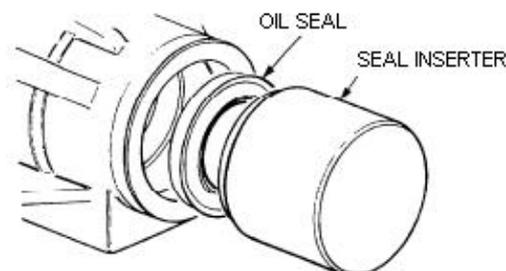

Figure 246 Installing the Pinion Oil Seal
- aa. Remove the coupling nut and flange, smear a suitable sealing compound on the outer periphery of the new pinion oil seal and using the seal inserter (Table 3, Serial 64), install the oil seal with the open face towards the bearing (Figure 246).